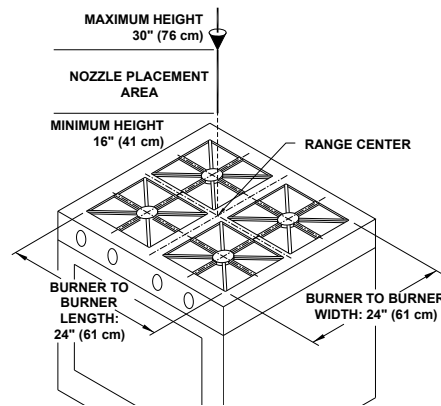

Figure 3-10.
The **Model N-2W** nozzle is a two (2) flow point nozzle that can protect a range cooking area of 24" (61 cm) wide by 24" (61 cm) deep. The nozzle must be located 16" (41 cm) to 30" (76 cm) above the cooking surface and be centered over the appliance. The nozzle must be aimed at the center of the cooking area. See **Figure 3-10**.